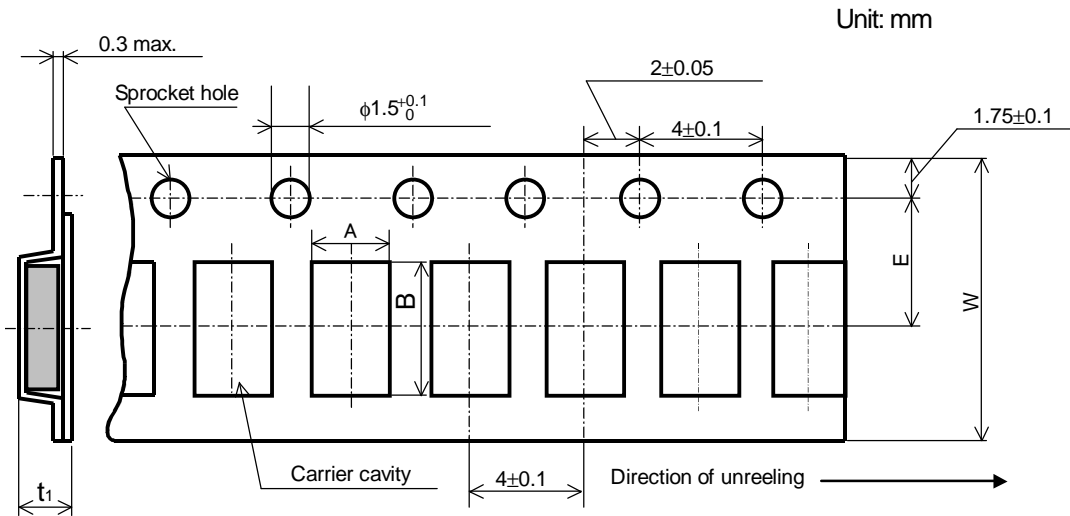

Figure-5
9.2.3 Embossed taping dimensions shall be in accordance with Figure-5 and Table-7.